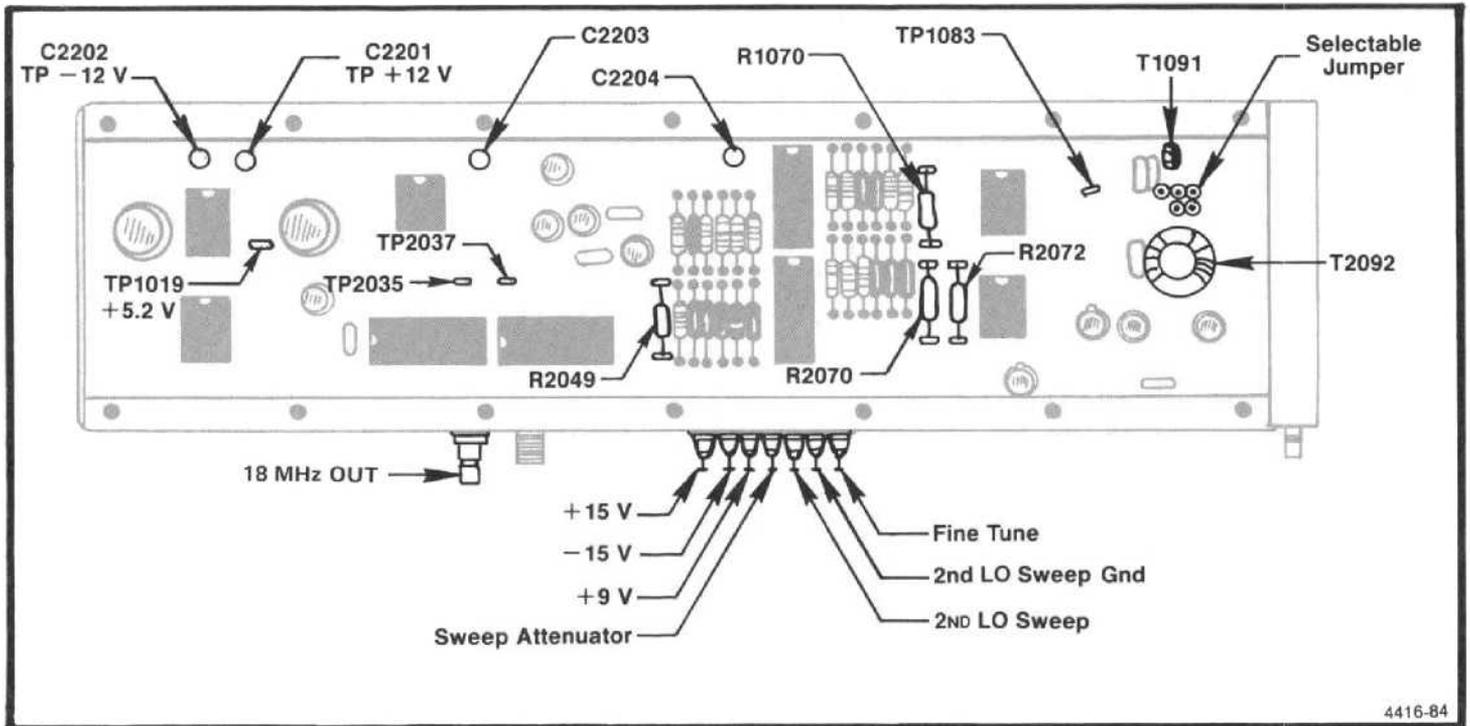

Figure 6-23. Test points and component location pertaining to calibrating the 16-20 MHz Phase Lock circuit for the 2182 MHz 2nd LO.
b. Remove the 14 screws that hold the cover on the mu-metal section and remove the cover. Unsolder the leads to feedthrough capacitors C2203 and C2204. (These are the center two feedthroughs that feed through the circuit board, as shown in Figure 6-23.)
d. Remove the mu-metal lid and reconnect the leads to feedthrough capacitors C2203 and C2204, on the Phase Lock board (Figure 6-23). Replace the lid and install the 14 screws. Tighten the screws from the center toward the corners of the lid to prevent gaps between the lid and the housing. Do not overtighten because the screws are easily stripped.
This side of the assembly contains the 16–20 MHz Phase Lock circuit board (see Figure 6-23). Replacing oscillator components in this section may alter sweep linearity and frequency of the 16–20 MHz oscillator. The following checks and calibration should aid in repairing and returning the assembly to satisfactory operation.
a. Check all input voltages at the feedthrough capacitors in the housing wall. Refer to Figure 6-23 or the data printed on the lid. Voltage at the sweep and tune input lines should equal $0\text{ V} \pm 0.05\text{ V}$ with the FREQ SPAN/DIV $\geq 500\text{ kHz}$.
c. Switch POWER on, then check the internal regulated voltages; $+12\text{ V} \pm 0.4\text{ V}$ at C2201, $-12\text{ V} \pm 0.4\text{ V}$ at C2202, and $+5.2\text{ V} \pm 0.25\text{ V}$ at TP10109 (see Figure 6-23). Check the output of the shaper at TP1083 for $0.0\text{ V} \pm 0.3\text{ V}$.
c. Press <SHIFT> INT to disable frequency correction; then press <SHIFT> READOUT and select frequency display of 2nd LO (2) from the menu. Readout will now indicate the 2nd LO frequency.
d. Tune the 2nd LO to one end of its range where the frequency readout no longer changes. Note the frequency and measure the voltage on the Tune Line at the input feed-through capacitor (Figure 6-23).
g. If the frequency/volt change is low, decrease the value of select resistor R2072 and increase the value of R2070 (Figure 6-23). Keep the ratio of R2072 and R2070 the same. If the frequency/volt change is high, increase R2072 and decrease R2070.
1) A shaper diode or resistor may be defective if the comb line spacing is consistent for part of the tuning range and 30 kHz or more off for the other parts of the sweep. To test the diodes for forward conduction, tune to the low end of the range and short R2049 (Figure 6-23). The output of U1073A (pin 1) should equal about +3 V. U1059 diodes B through G and U2059 diodes A through F should all have a 0.48 V forward drop. Use a floating or digital voltmeter to check the drop.